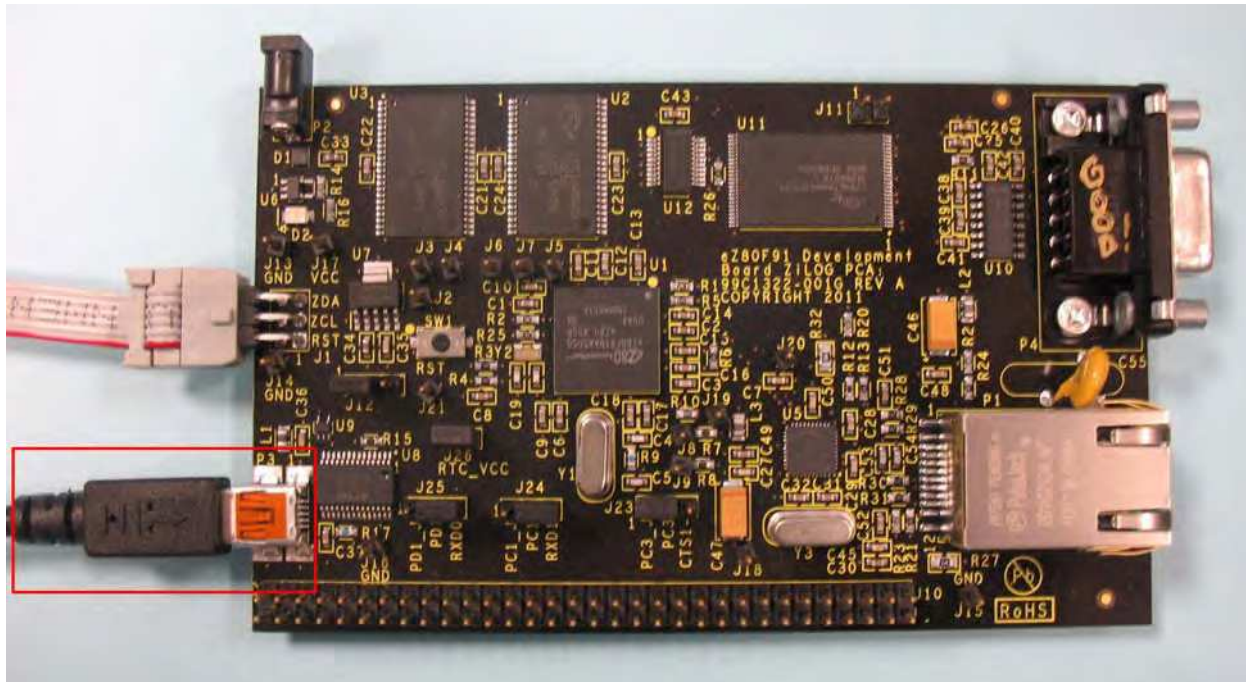

Figure 5. USB-to-UART Port 3 Connector
5. With the USB A (male) to Mini-B cable, connect Port P3 on the ZGATE Embedded Security Development Board to a USB port on the development PC to apply power to the Development Board, as highlighted in Figure 5.